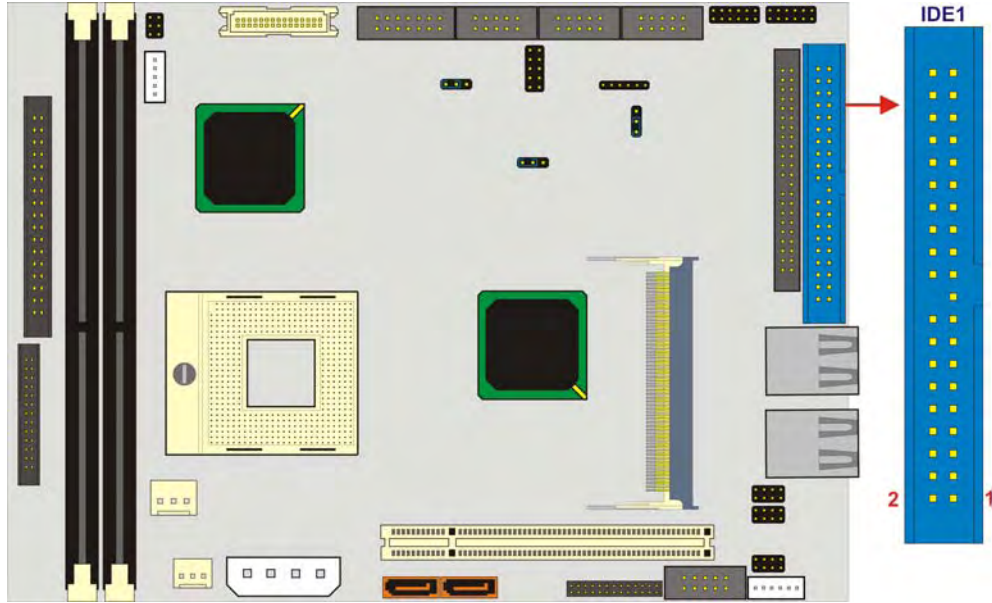

Figure 3-12: Primary IDE Device Connector Locations
- CN Location:** See **Figure 3-12**